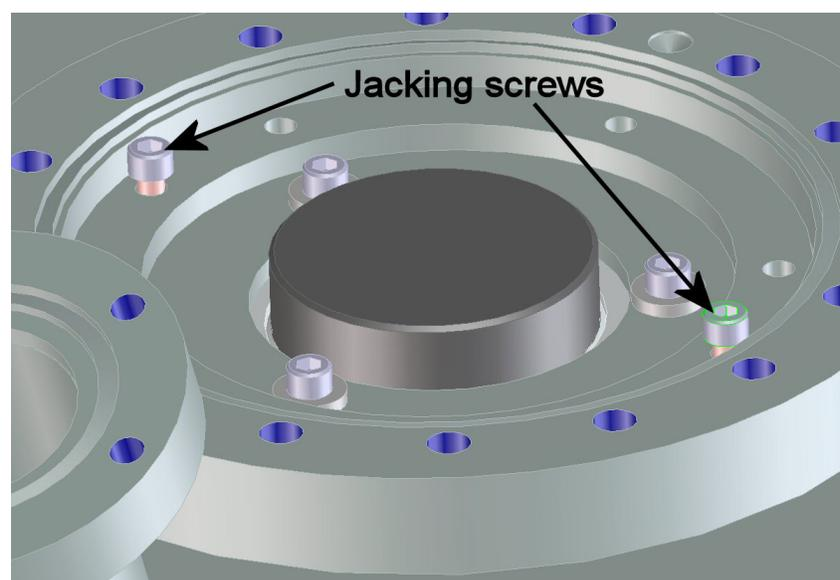

Figure 3. Location of the flange jacking screws.
7. Put two of the flange mounting screws into the two tapped “jacking screw” holes. Remove the inner flange plate by grasping the jacking screws and gently rotating the flange while pulling it upward (see Figure 3).